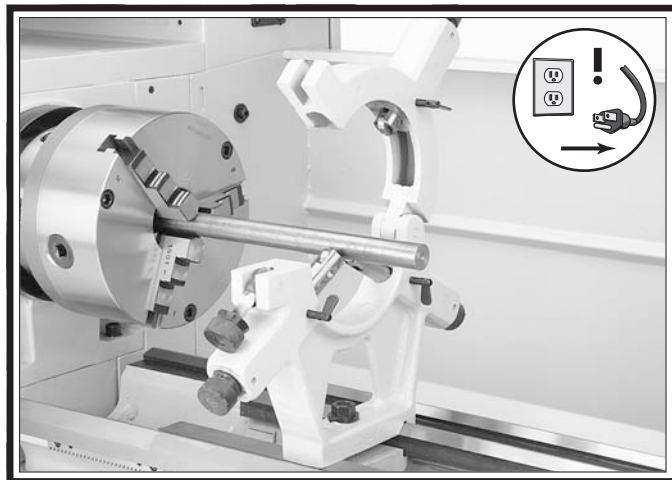

Figure 69. Workpiece mounted in the steady rest.
4. Loosen the lock knob and open the steady rest so the workpiece can rest on the bottom two finger rollers, as shown in **Figure 69**.